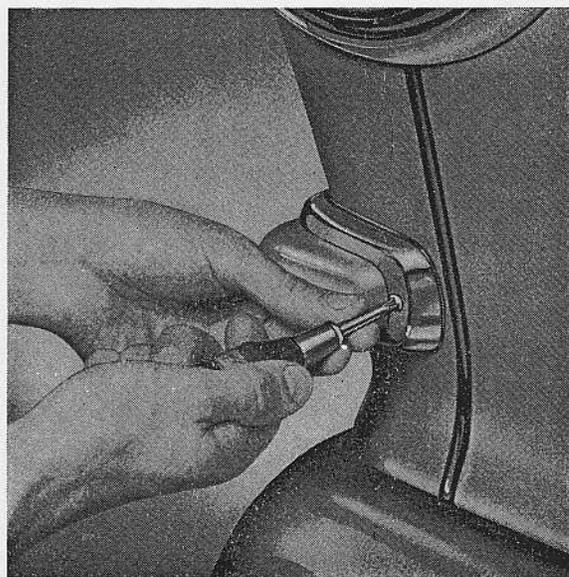

Fig. 22. Removing rim for parking lamp.
1. The glass is removed by unscrewing the two screws in the rim, see Fig. 22.